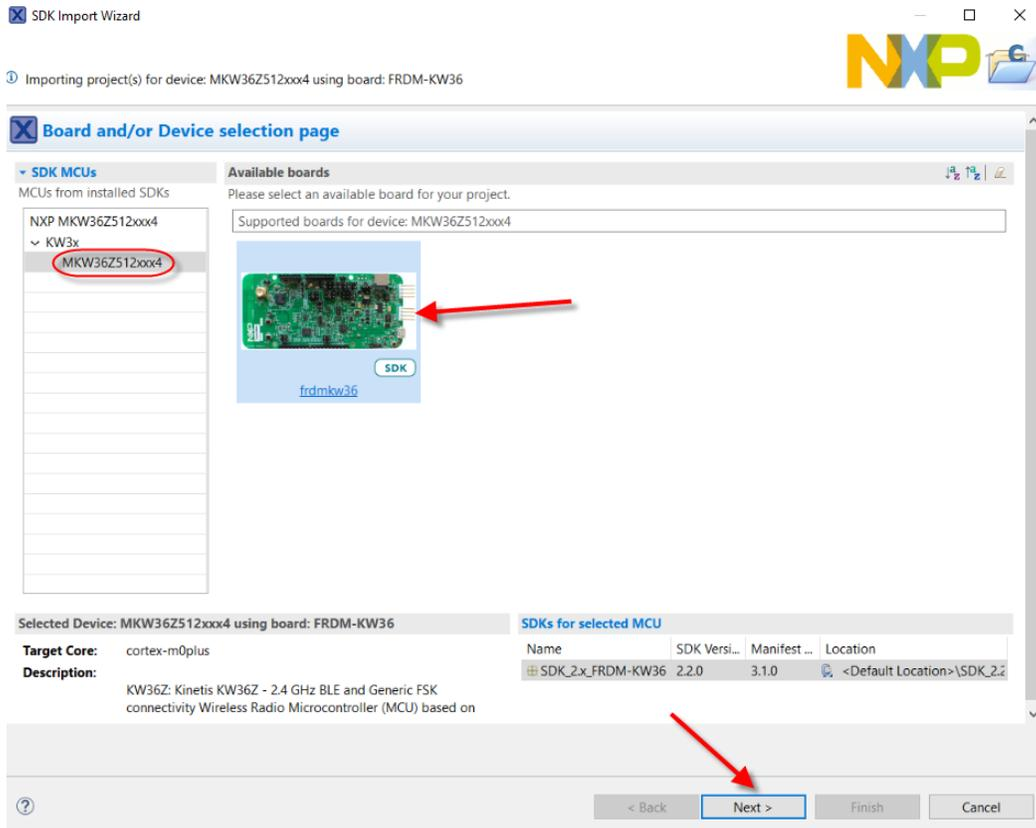

Figure 6. Board and/or Device selection page
- b. Search and select “frdmkw36” in the “board and/or device selection page”, then click “next” See *Figure 6*